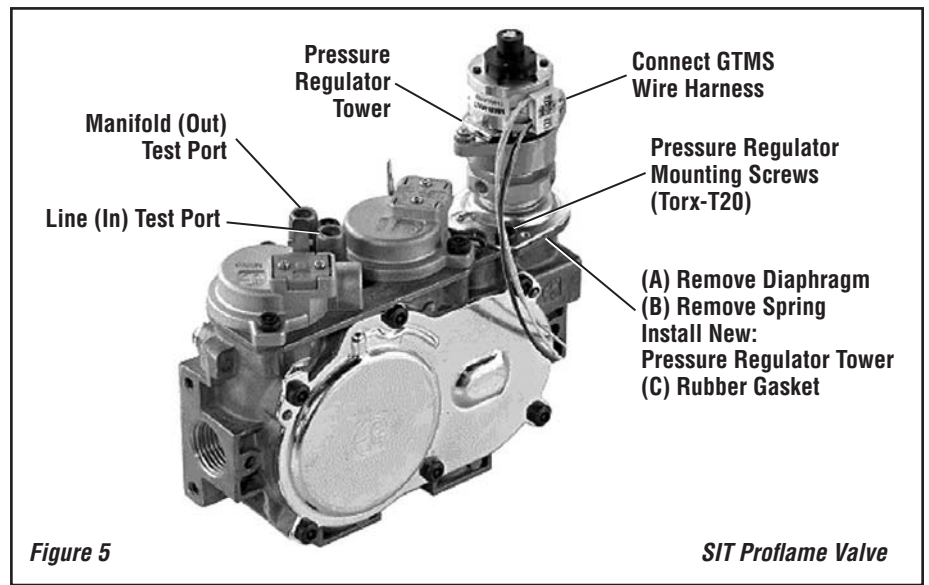

Figure 5
Step 4. SIT Systems - Refer to *Figure 5* and the instructions provided with the kit. **Discard all removed components.**
Step 6. See *Figure 5*. Using a Torx T20, or slotted screwdriver, remove and discard the two (2) pressure regulator mounting screws, pressure regulator tower, the diaphragm assembly (A) (if applicable) and the spring (B).
Step 7. Ensure the rubber gasket (C), which is pre-fitted as part of the assembly, is properly positioned (see *Figure 5*).
Step 8. Install the new Stepper Motor pressure regulator assembly using the supplied screws as shown in **Figure 5**. Tighten screws securely (reference torque = 25 lb. in.).
Step 11. Attach manometer to the manifold side pressure test fitting and verify manifold pressure reads 3.5 inches water column (0.87 kPa) for natural gas, and 10.0 inches water column (2.49 kPa) for propane gas (see **Figure 5**).